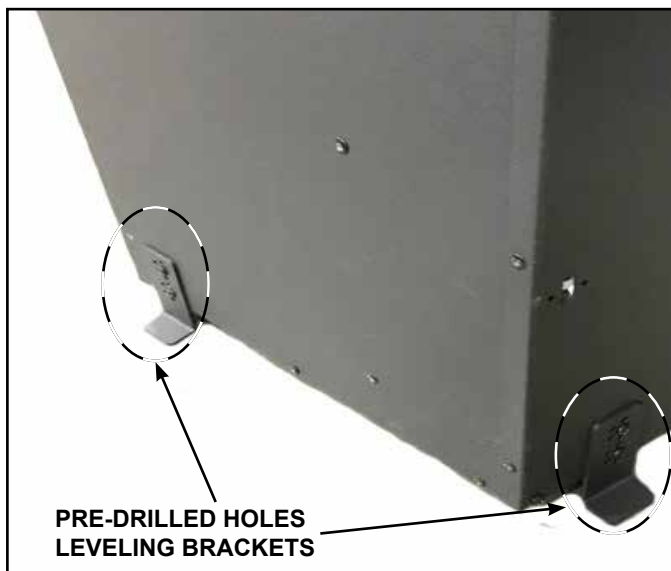

Figure 4.1 Pre-drilled Hole Locations
If necessary, leveling brackets may be installed. Install leveling brackets (4) by aligning them to the preset holes at the base of the appliance. Use two (2) screws (ST4 x 6) per bracket to secure to the appliance. See Figure 4.1.